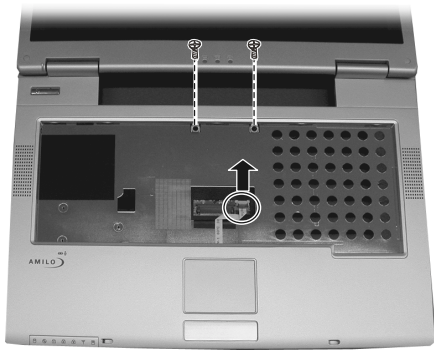

Figure 2-19 Free the top cover
4. Remove two screws and disconnect the touch pad's cable, then free the top cover. (Figure 2-19)